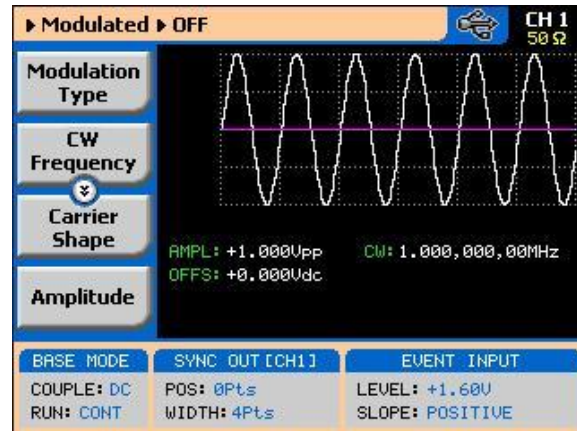

Figure 3-31: The Modulation Function Main Screen
The modulation function is turned on immediately after you press the Modulation button in the Functions group on the right side of the generator. By default, modulation is turned off and therefore, the output generates carrier wave (CW). The first modulation screen is shown in *Figure 3-31*. The modulation functions and their parameters are described as follows: